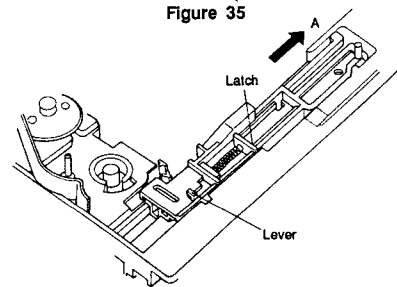

Figure 36
- (4) Flip the Base upside down in state of procedure (3). Unfasten the hook of Load Gear ass'y, and remove the Gear ass'y.
- (5) Move the Slide Lever in direction arrow A, as shown in Figure 36, until to stop. Press down the latch, and move the Slide Lever to stop again. Lift the Slide Lever to remove.
- (6) After removing the spring, move the projection of Slide Lever -2 into the shape section of Slide Lever -1, to separate them. Reassemble the Slide Levers in the reverse order.